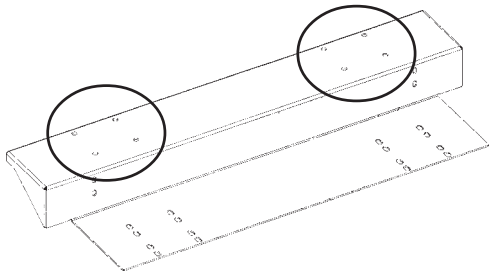
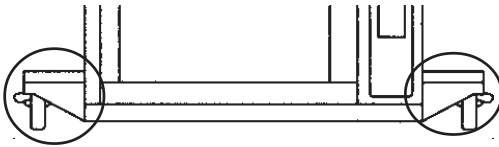

Figure 4
Figure 5
5. Attach casters to the caster bracket (Figure 4), mounting the two locking swivel casters to the control side of the unit and the non-locking casters to the customer side. Use the 5/16 inch hex head bolts, 5/16 inch locking washers, 5/16 inch nuts and 5/16 inch flat washers (use 2 flat washers per bolt; one on the bottom side of caster bracket and one on the top-side) which are provided. Completed installation shown in Figure 5.